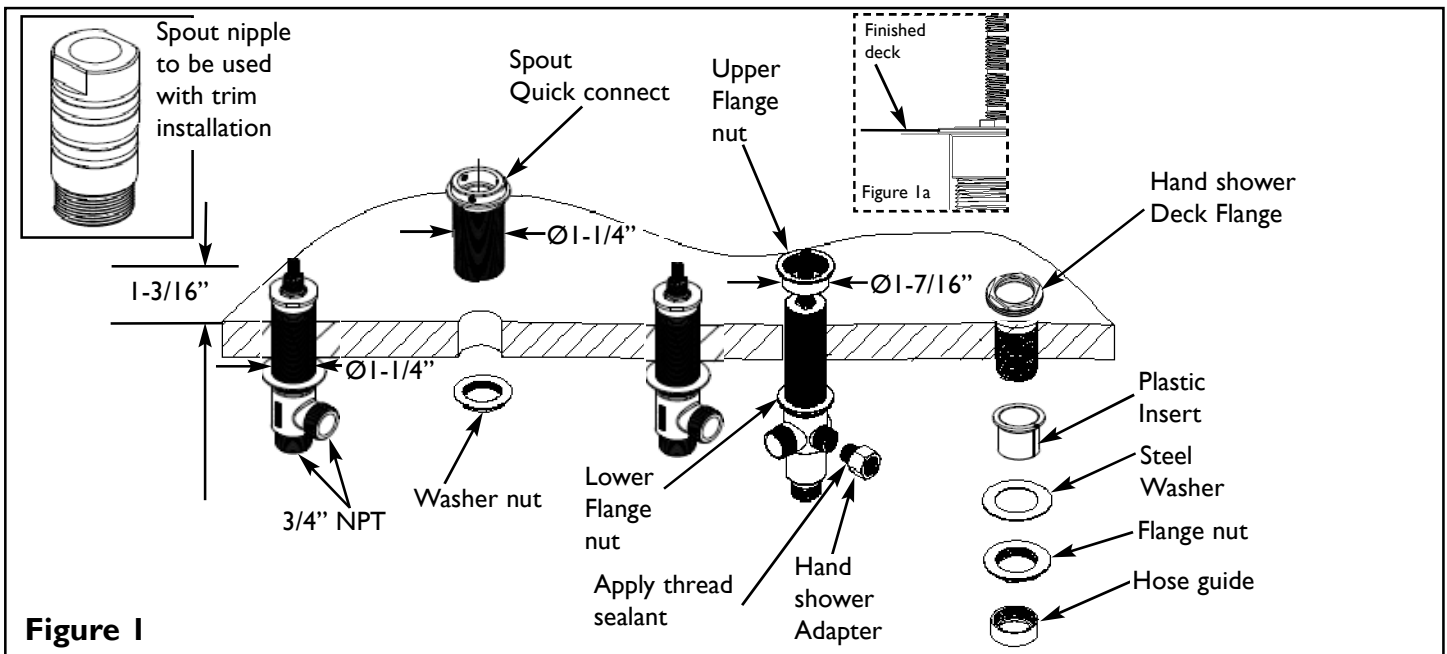

Figure 1
1. Install the spout quick connect shank through spacer and appropriate hole of mounting surface. Secure with washer nut. See Figure 1
3. Adjust stem height from finished deck and secure into place with upper nut. See Figure 1.